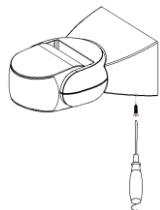

Figure1
- Loosen the screw on the bottom and unload the bottom (refer to the figure1).